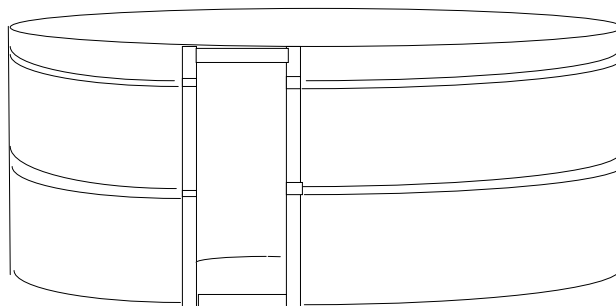

Figure 13: Positioning of belly bands on khans.
5. Attach your belly bands. Each band should be tied onto the door frame, walked around the outside of the yurt maintaining an even height, and tied to the other side of the door frame. Use a knot for which you can adjust the tension, as you're going to fuss with these a lot. One belly band goes around the top (over the heads of the top-most bolts), and the other goes halfway down the wall. The belly bands keep the khana from spreading farther out. See Figure 13.